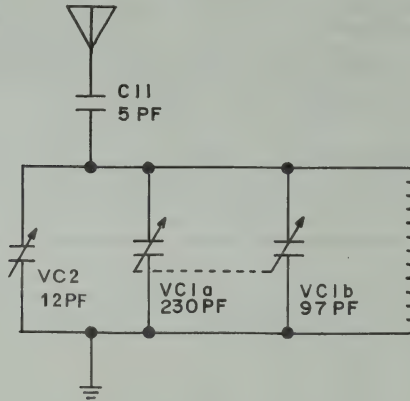

Figure 11 Tuning Circuit for Broadcast Band, Simplified
If the other three band coils were not in the circuit, the simple tuning circuit for the Broadcast Band would be as shown in Figure 11. In this simplified circuit, the signal from the antenna is coupled into the tuning circuit through 5 pF capacitor C11. A condition of resonance is produced in the inductive-capacitive (LC) tuning circuit. The tuning circuit consists of the MAIN TUNING capacitors VC1 a and VC1b in parallel with the primary winding of the Band A coil. The series combination of the variable BANDSPREAD capacitor VC2 provide a small amount of additional capacitance which is used for fine tuning over small areas of selected bands.